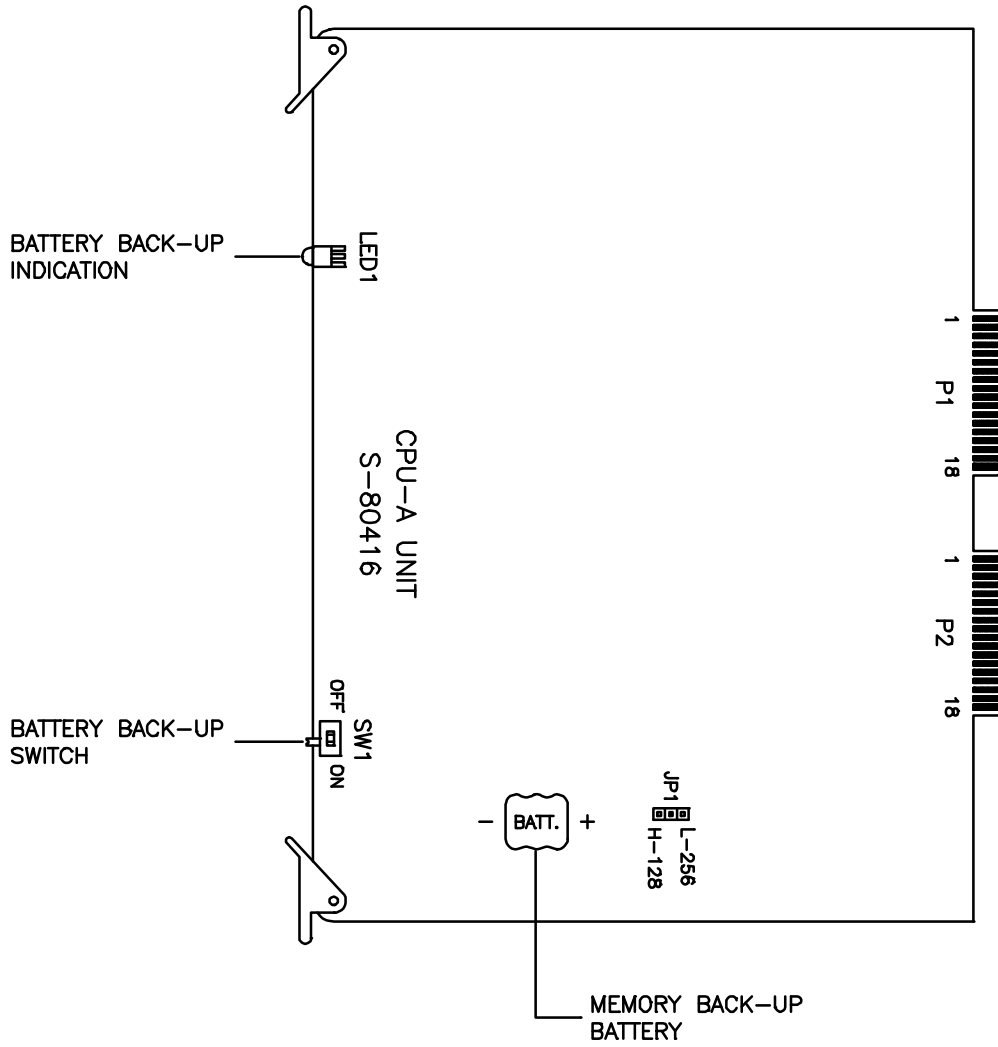

Figure 2: Central Control Card (CPU-A)
Central Control Card (CPU-A) Refer to Figure 2.
- 4.12 The following are located on the CPU-A (refer to Figure 2):